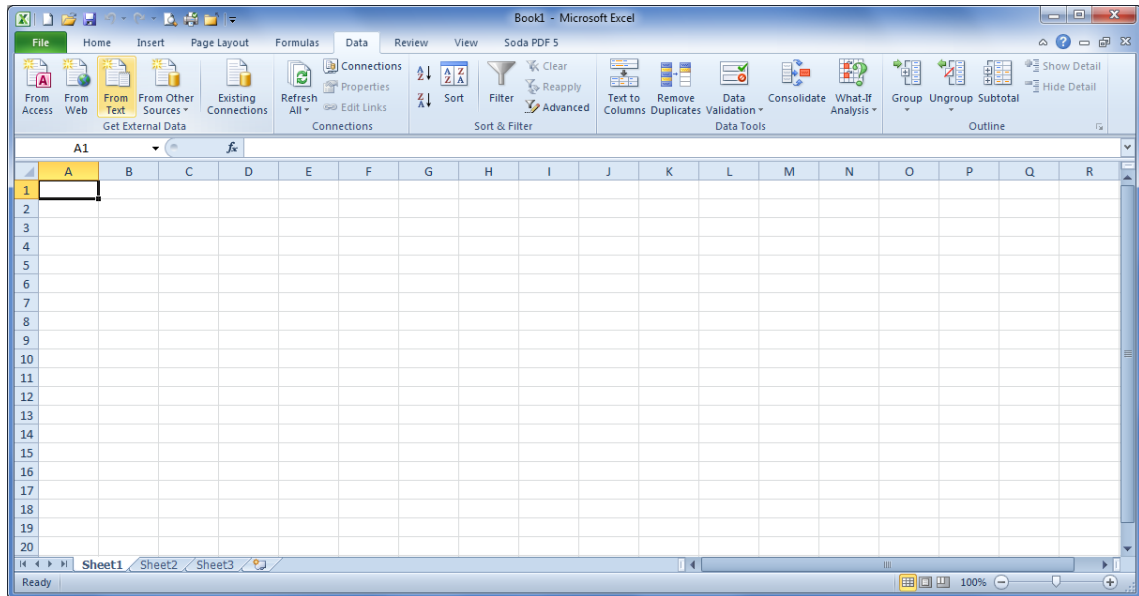

Figure 6.11: Microsoft Excel 2010™ CSV Import (2)
2. After setting the options, click on the *Data* tab as shown in Figure 6.11. In order to import the CSV file, click on *From Text* in the group *Get External Data*, locate and double-click the file you want to import. Follow the instructions in the *Text Import Wizard*.